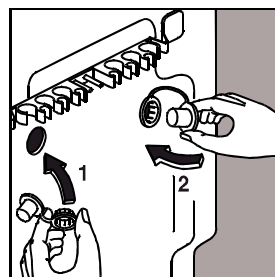

Fig 5
- You can now see the openings that must be closed with the plugs in the pack attached to the washing machine; do not forget to fold down the central capsule (fig. 5).